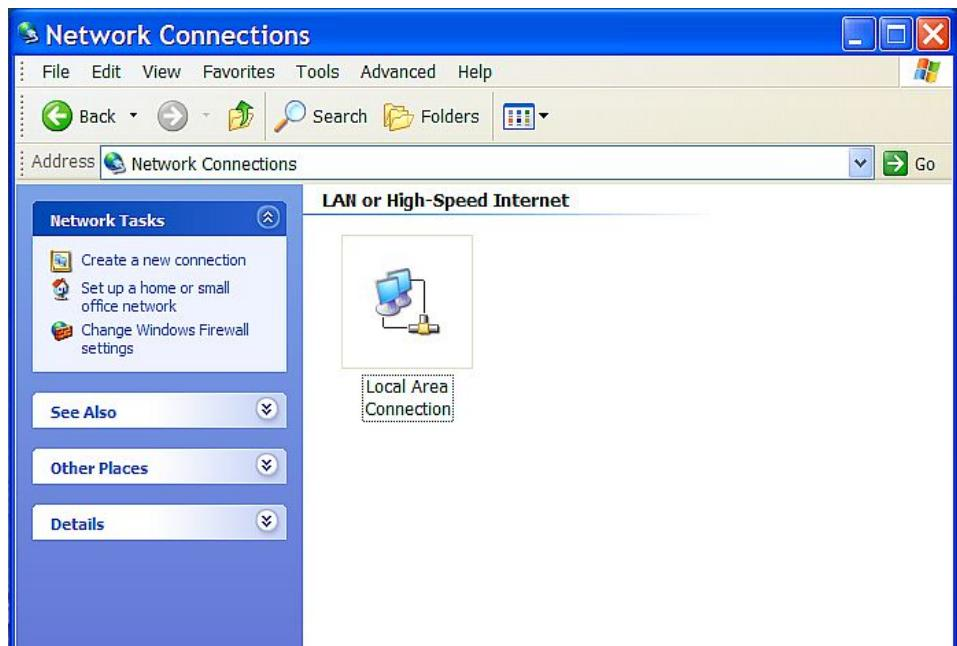
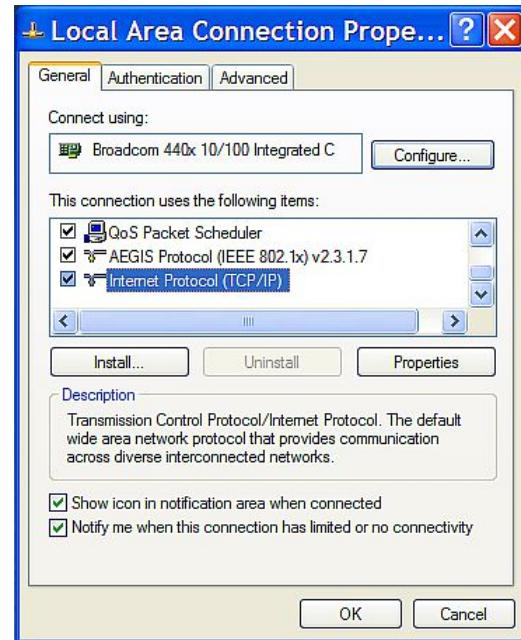

Figure 2.3c- Network Connection
Figure 2.3d- Local Area Connection
2. Double click on the icon labeled Network Connections. The Network Connections window will open (Figure 2.3c).
3. Right click on the icon labeled Local Area Connection. (Figure 2.3c). In the menu that follows, select the option at the bottom of the menu labeled Properties. The Local Area Connection Properties window will appear (Figure 2.3d).